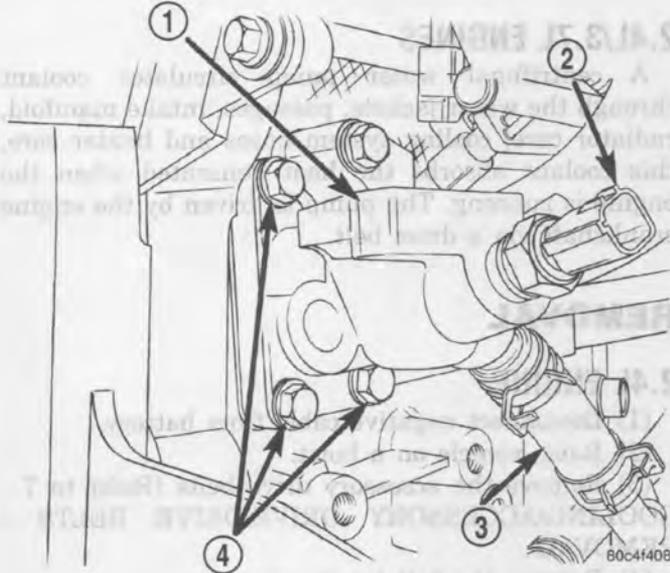

Fig. 39 Thermostat Housing
(2) Remove thermostat (Refer to 7 - COOLING/ENGINE/ENGINE COOLANT THERMOSTAT - REMOVAL).
(3) Disconnect engine coolant temperature sensor.
(4) Disconnect heater supply hose.
(5) Remove housing attaching bolts (Fig. 39).
(6) Remove housing and gasket (Fig. 39).
(1) Clean all gasket sealing surfaces.
(2) Install gasket and housing (Fig. 39). Tighten bolts to 28 N·m (20 ft. lbs.).
(3) Connect engine coolant temperature sensor.
(4) Install thermostat (Refer to 7 - COOLING/ENGINE/ENGINE COOLANT THERMOSTAT - INSTALLATION).
(5) Fill cooling system (Refer to 7 - COOLING - STANDARD PROCEDURE).